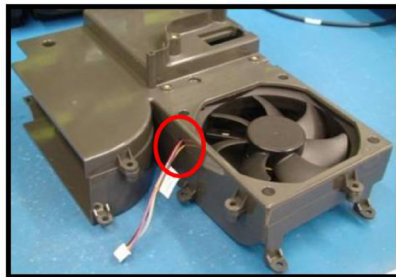

Figure 8 Fan harness
10. Assembly the two duct pieces together, make sure that the harness of the fan is placed in the square cutout as shown in Figure 8. **NOTE:** Do not pinch the harness.